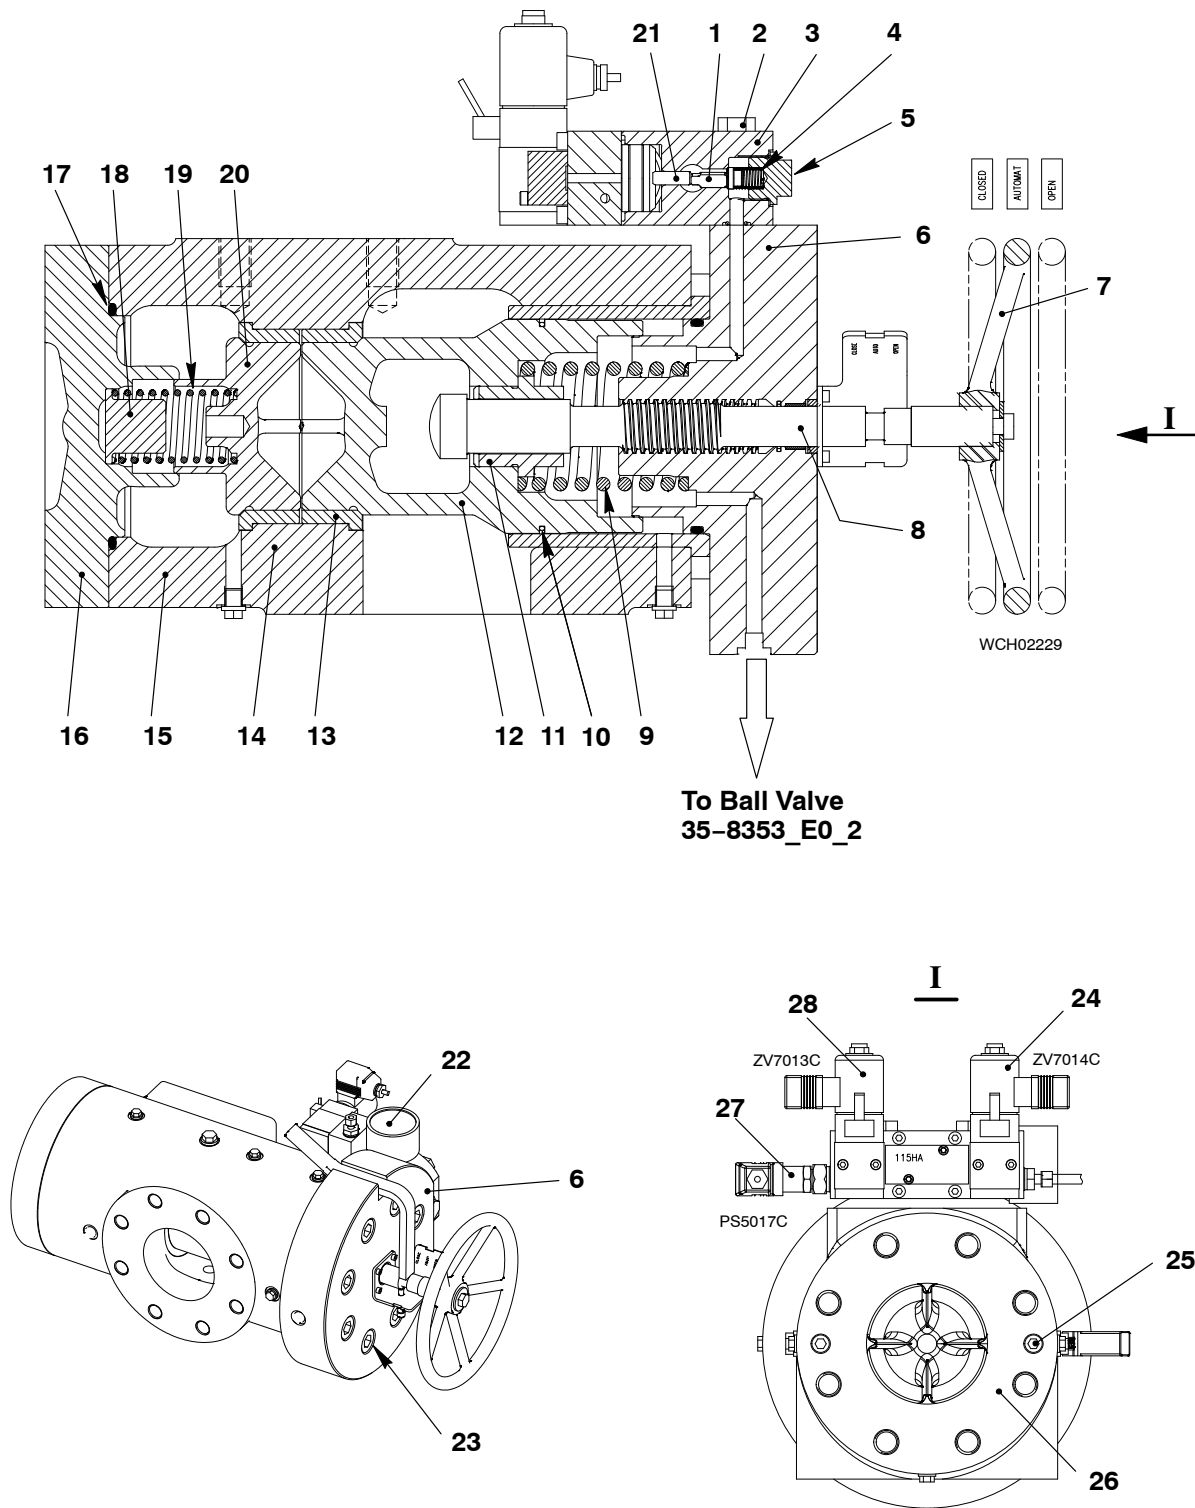
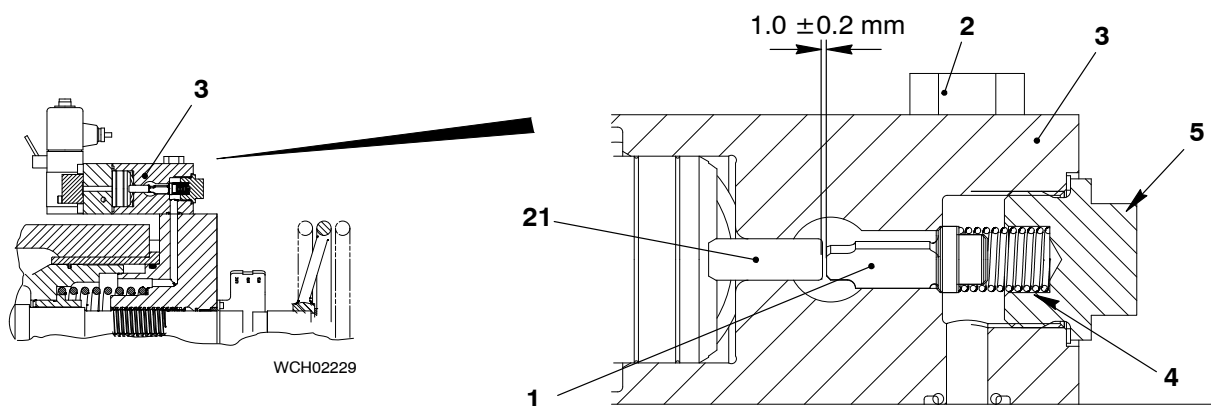

Fig. 2
Fig. 3
- 1) Remove the eight screws (23, Fig. 2) from the cover (6).
- 2) Turn the handwheel (7) fully in. This moves the cover (6) from the spindle (8).
- 3) Remove the handwheel (7), the cover (6) and the spring (9).
- 4) Use an AF 60 swan neck spanner to remove the spindle nut (11).
- 5) Remove the spindle (8).
- 6) Remove the two screws (25) from the valve guide (16).
- 7) Remove the valve guide (16).
- 8) Remove the stopper (18) together with the spring (19) and valve body (20).
- 9) Remove the silencer (22) and its gasket.
- 10) Remove the screw plug (5) together with the spring (4), valve (1) and piston (21) from the control valve (19).
- 11) Remove the two bolts (2) from the control valve (3).
- 2) Remove grease from the surfaces of the spindle (8, Fig. 2) and the threads of the spindle nut (11).
- 3) Apply a thin layer of Molykote paste to the stopper (18), the spring (19) and the valve body (20).
- 4) Put the O-ring (17) and valve body (20) into the housing (15).
- 5) Put the stopper (18) and spring (19) into the valve guide (16), then attach the valve guide to the housing (15) with the two screws (25).
- 6) Torque the two screws (25) to the value given in 0352-1, paragraph 1.
- 7) Apply Molykote paste to the bore of spindle nut (11). Put the spindle nut on the spindle (8).
- 8) Apply Loctite 0243 to the threads of the spindle nut (11).
- 9) Put the spindle (8) and spindle nut (11) into valve (12).
- 10) Attach the valve (12) together with spindle (8) and piston joint ring (10) to the housing (15).
- 11) Apply Molykote paste to the inner cylinder of the cover (6).
- 12) Put the spring (9) on to the spindle (8) in the cover (6).
- 13) Attach the cover (6), spring (9) and spindle (8) to the housing (5) with the eight screws (23).
- 14) Torque the eight screws (23) to value given in 0352-1, paragraph 1.
- 15) Install the handwheel (7).
- 16) Attach the control valve (3) to the cover (6) with the two bolts (2).
- 17) Torque the two bolts (2) to the value given in 0352-1, paragraph 1.
- 18) Put the piston (21), valve (1), spring (4) and screw plug (5) in position in the control valve (3), see Fig. 3.
- Note: When you do step 19, look through the hole in the control valve (3).**
- 19) Make sure that the clearance between the valve (1) and the piston (21) is  $1.0 \pm 0.2$  mm.